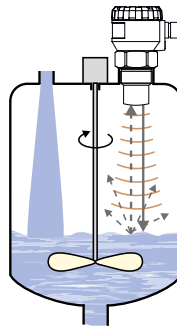

Fig. 9: Moderately stirred surface
- During filling, mixing and other processes, foam can arise on the level of the measured liquid. The foam considerably absorbs the radio signal which might cause malfunction of the level meter (Fig. 9). For such cases, it is necessary to set up "SENSITIVITY" mode to "high" or contact the manufacturer if need. In case of a thin layer of foam, it is also possible to use the directional horn for improving receipt of the reflected echo.
- Scattering or attenuation of the radio signal can result if the level has been moderately stirred or rippled (by a mixer, coming liquid etc.). It can result in reduction of the measurement range or unreliable function of the level meter (Fig. 9).